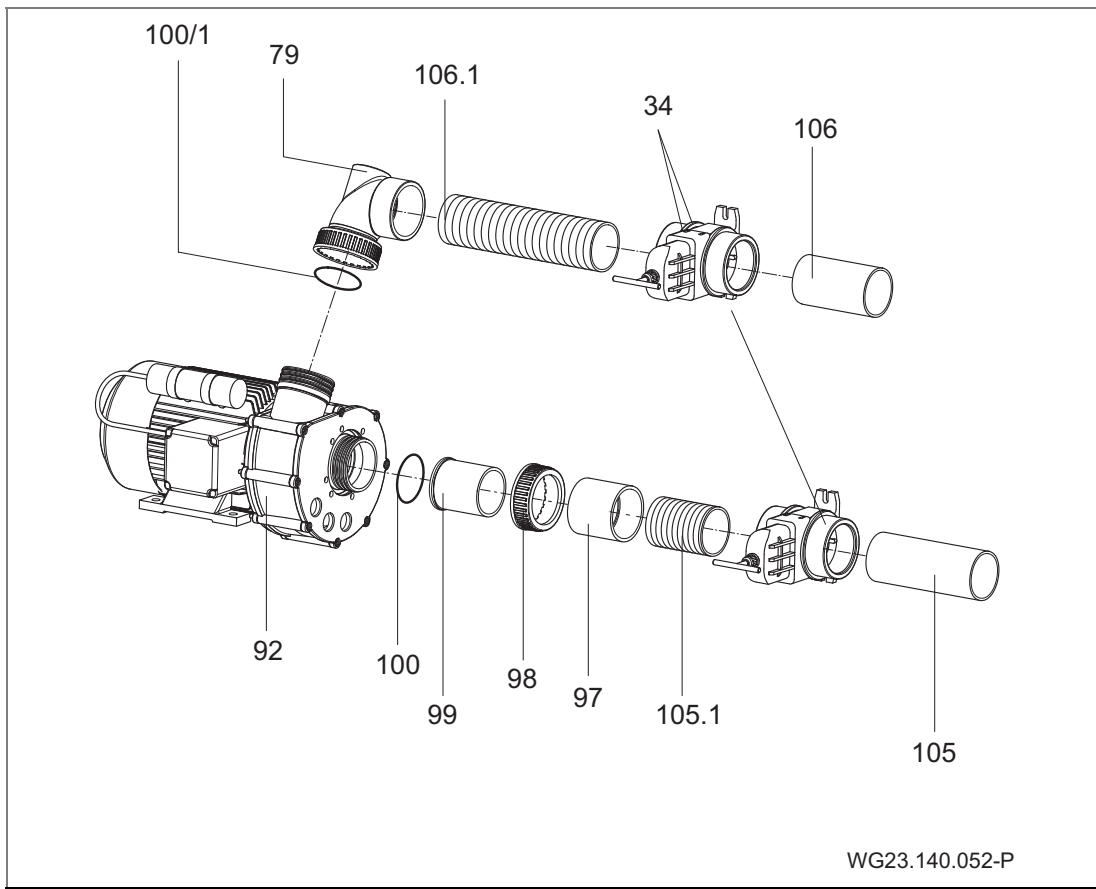

Fig. 20
13. Connect or bond the jet pump (92) with the flexible suction tube (105.1), adapter (97) and screwed connection (98; 99) and at the intake side with the flexible pressure tube (106.1) and special reducer (79) at the delivery side. (Fig. 20)